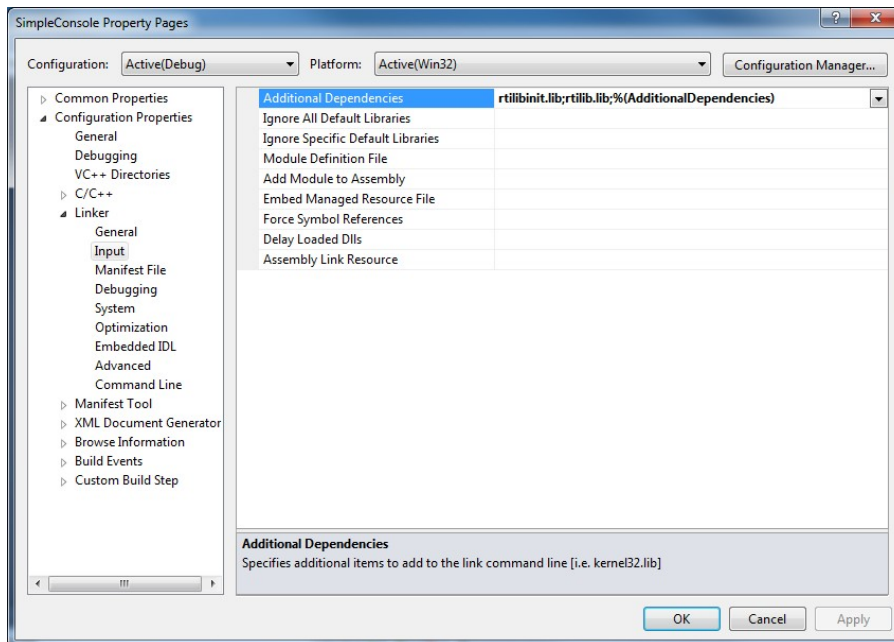

Figure 8. VC++ Express Additional Dependencies Configuration
- c. Go to Linker and the Input category and add “rtlibinit.lib; rtlib.lib” (with a ; between the two libraries) to Additional Dependencies. See Figure 8.